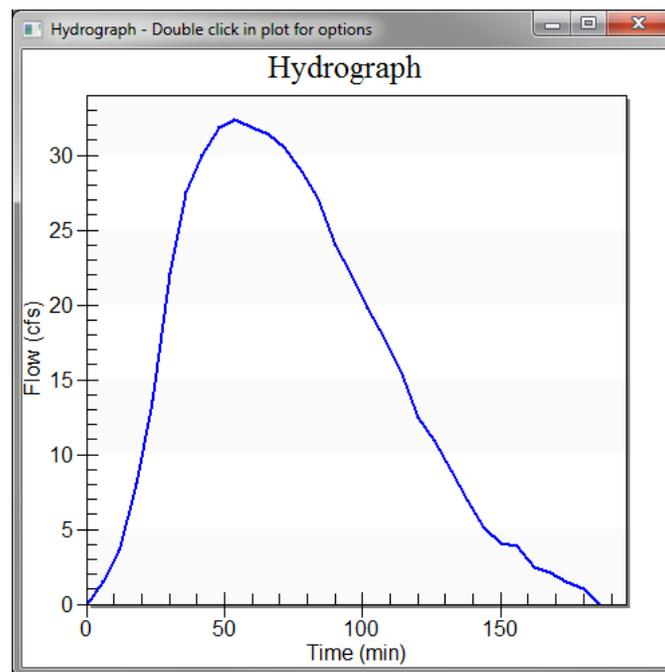

Figure 4 Hydrograph dialog showing a plot of inflow vs. time
10. Click **Plot** to bring up the *Hydrograph* dialog showing a plot similar to Figure 4.